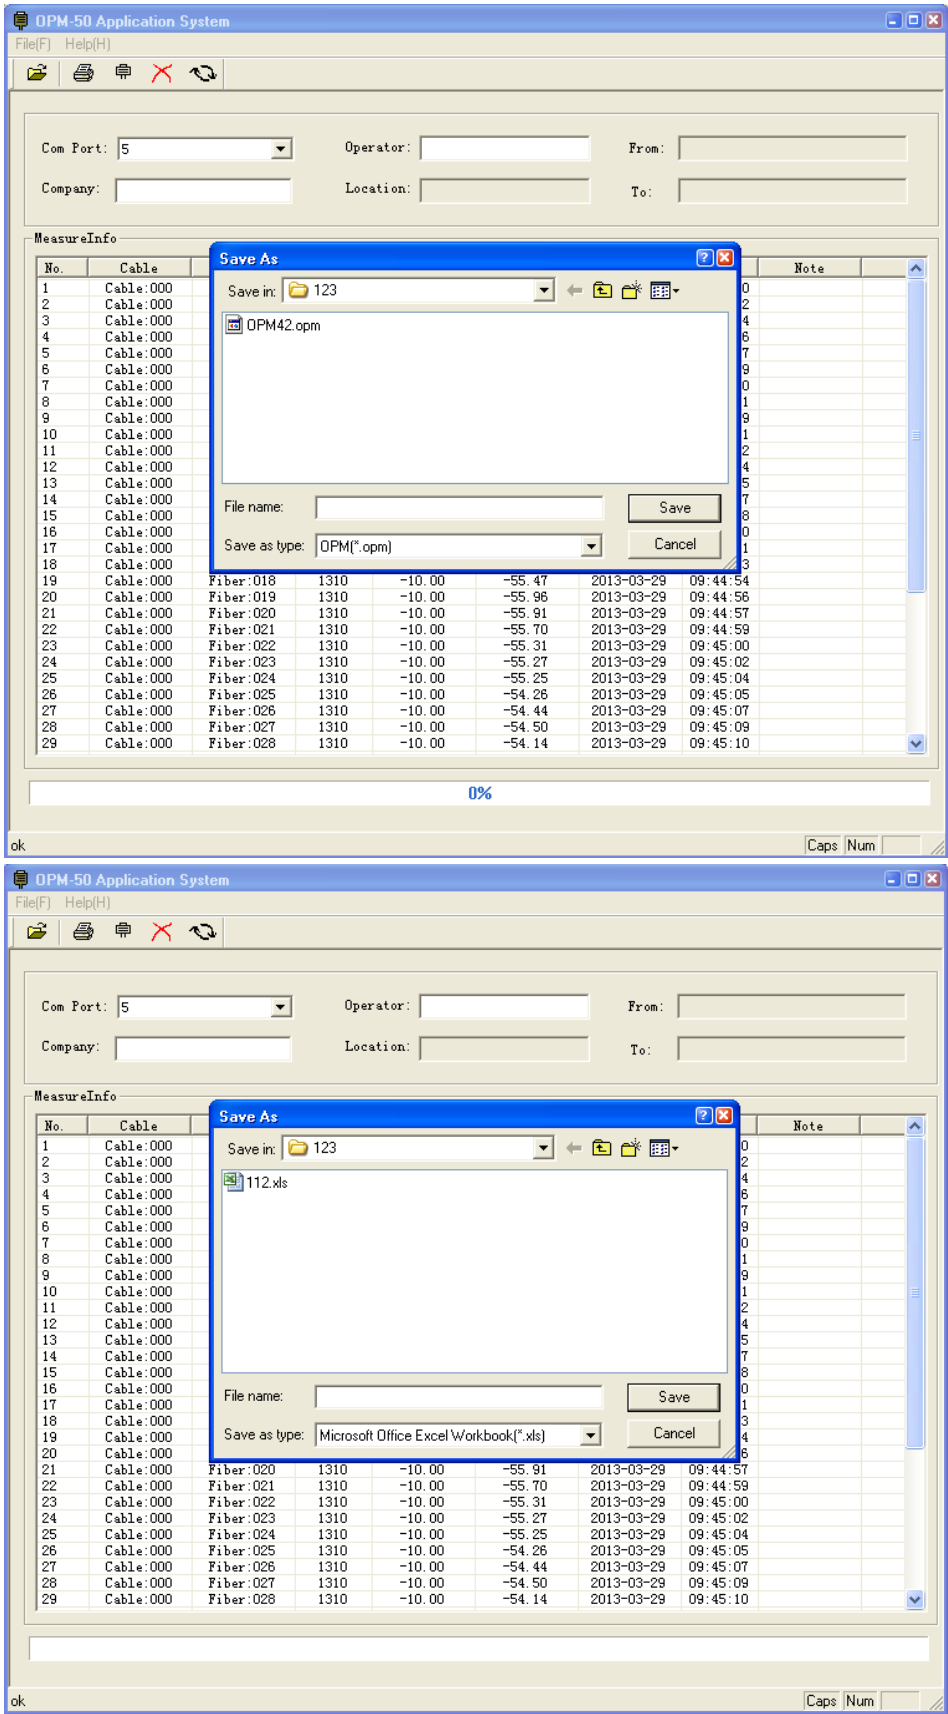

Figure4.1.4
- 6 Click “Save” under “File”, will save the data to PC, and file format is .opm, shows as Figure 4.1.4; at the same time you can click “Save as...” then save the file format is TXT.